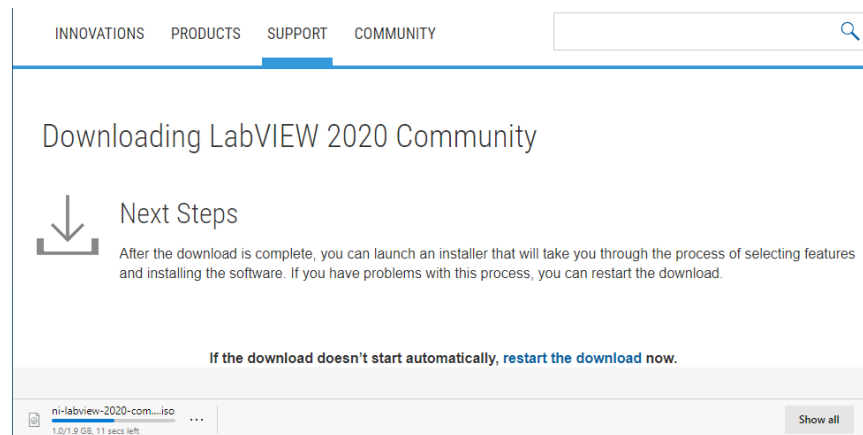

Figure 2-9 Begin downloading
4. You will be asked about how to treat the file, so select “Save” and save the file to a folder of your choice (Figure 2-9). (This will look different on browsers other than Microsoft Edge, but please save the file to the PC one way or another.)